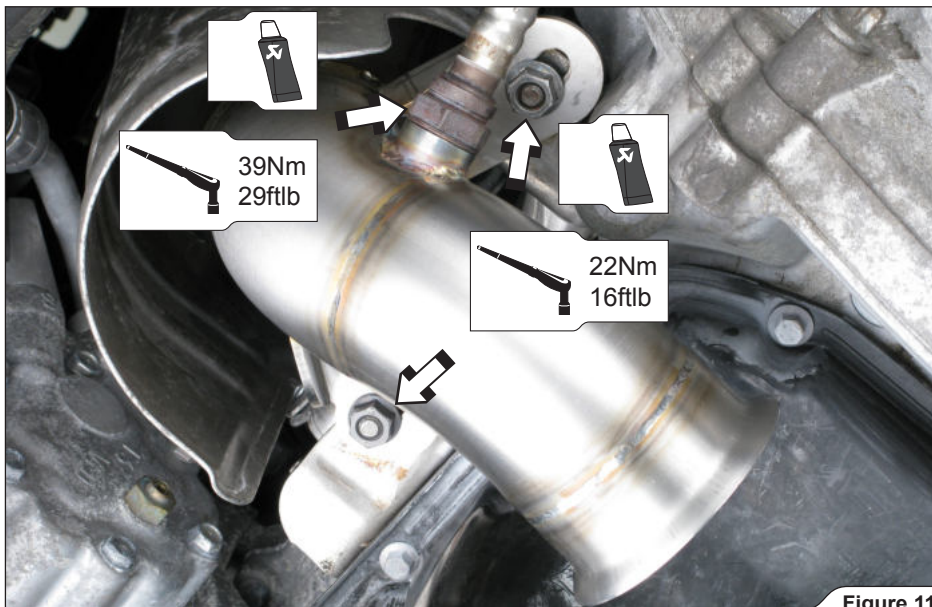

Figure 11
1. **For Optional Down Pipe only:** assemble the Akrapovič Down Pipe in the reverse order from the order in which the stock was removed. Tighten the lower lambda sensor (Figure 11, 12).